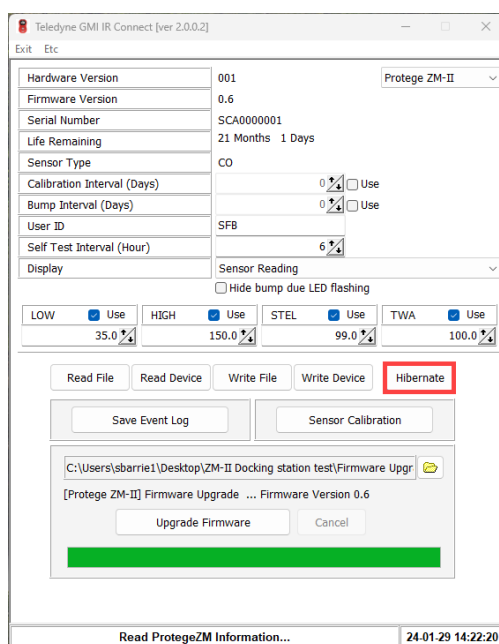

Figure 6-2: IR Connect - Hibernate
3. Press HIBERNATE. A screen appears asking you if you want to proceed. If you have already saved the event log, click YES. See Figure 6-2 for more details.